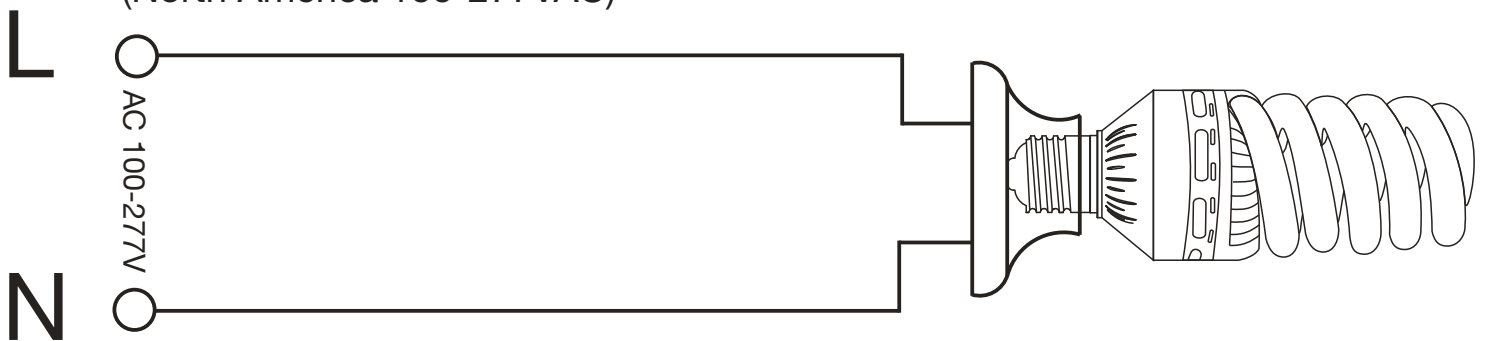

Fig 3
3. Install New LED Replacement lamp. Shown as Figure 3. Please make